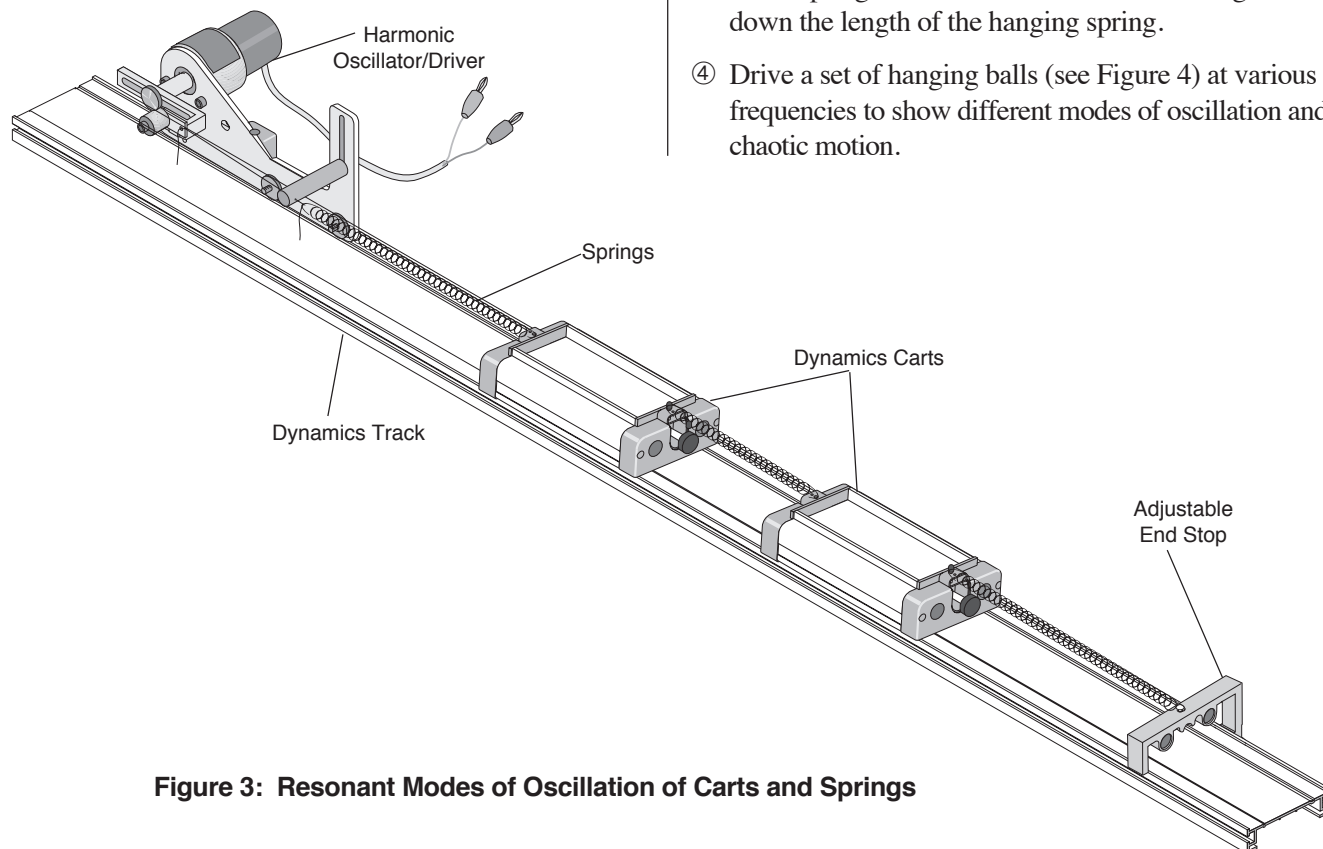

Figure 3: Resonant Modes of Oscillation of Carts and Springs
- ① Attach a spring to each end of a dynamics cart. Connect the free end of one spring to the adjustable end stop at one end of the dynamics track. Connect the free end of the second spring to a string tied to the Oscillator/Driver and threaded through the string guide. Drive the spring and cart system at various frequencies to find the resonant frequency of the system.
- ② Use two carts and three springs to find the resonant frequencies of the two different modes of oscillation. See Figure 3.